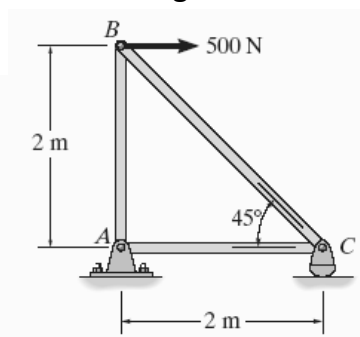

Figure 2-4
4. Determine the force in each member of the truss and indicate whether the members are in tension or compression as shown in **Figure 2-4**.